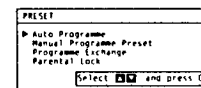

Fig. 3.
- Select Preset with  $\Delta$  or  $\nabla$  and press OK. The PRESET menu appears. (See Fig. 3.)